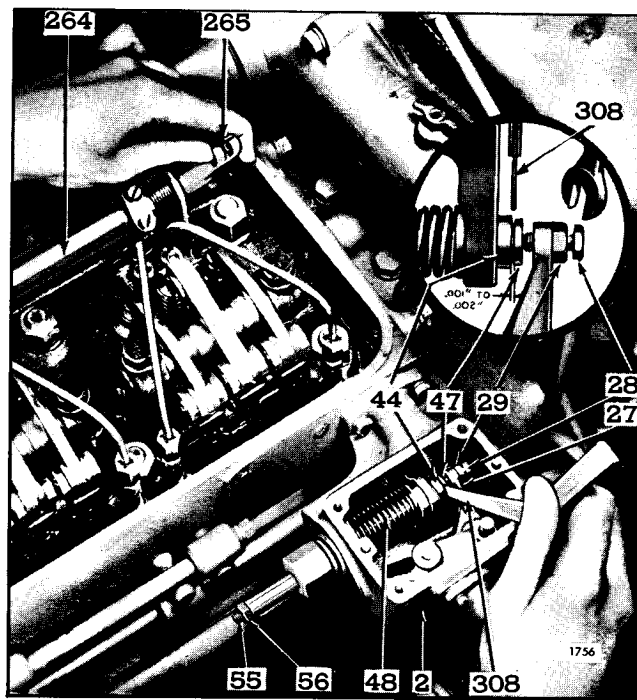

Fig. 2 - Adjusting Governor Gap
2. Start the engine. Then loosen the idle speed adjusting screw lock nut (56), see Fig. 2. Turn the idle speed adjusting screw (55) to obtain the recommended idle speed. The recommended idle speed is 550 rpm for single weight governors, but may vary with special engine applications.
2. Start the engine. Then loosen the idle speed adjusting screw lock nut (56) see Fig. 2. Turn the idle speed adjusting screw (55) to obtain the recommended idle speed. The recommended idle speed is 450 rpm for double weight governors, but may vary with special engine applications.